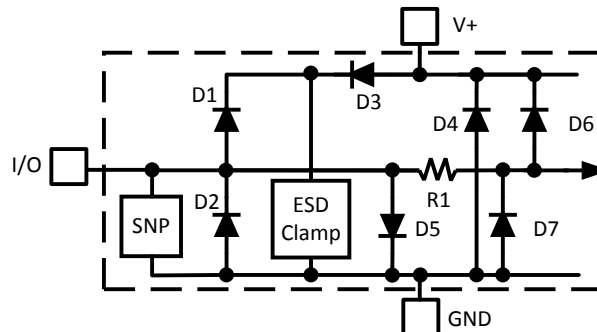

Figure 4. ESD Protection Input Structure
- (1) Absolute Maximum Ratings indicate limits beyond which damage to the device may occur. Operating Ratings indicate conditions for which the device is functional, but do not ensure performance limits. For ensured specifications and test conditions, see the Electrical Characteristics. The ensured specifications apply only for the test conditions listed. Some performance characteristics may degrade when the device is not operated under the listed test conditions.
- (2) All voltages are measured with respect to GND, unless otherwise noted.
- (3) When the input voltage (V_{IN}) at any pin exceeds the power supplies ($V_{IN} < GND$ or $V_{IN} > V+$), the current at that pin should be limited to 5 mA. Parasitic components and/or ESD protection circuitry for the LM63's pins are shown in Figure 4 and Table 1. The nominal breakdown voltage of D3 is 6.5 V. Care should be taken not to forward bias the parasitic diode, D1, present on pins D+ and D-. Doing so by more than 50 mV may corrupt temperature measurements. An "X" means it exists in the circuit.
- (4) Thermal resistance junction-to-ambient when attached to a printed circuit board with 2 oz. foil is 168°C/W.
- (5) Human body model, 100 pF discharged through a 1.5 k Ω resistor. Machine model, 200 pF discharged directly into each pin. See Figure 4 and Table 1 for the ESD Protection Input Structure.
- (6) See the URL <http://www.ti.com/packaging> for other recommendations and methods of soldering surface mount devices.